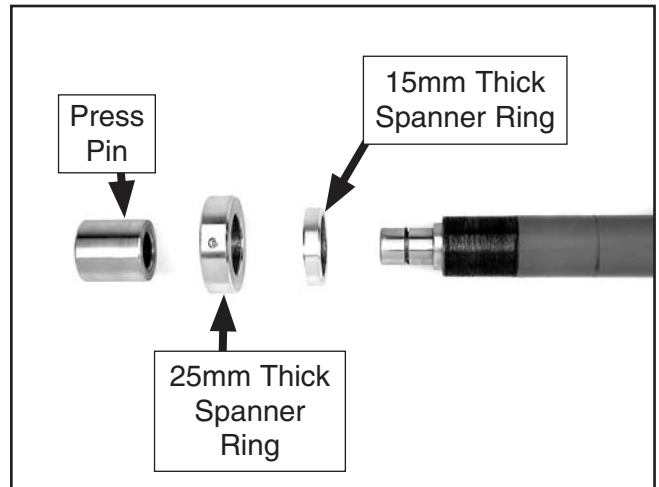

Figure 12. Spanner ring removal.
- Remove the threaded spanner rings and the press pin from the piston, and lay them out on the workbench, as shown in **Figure 12**.